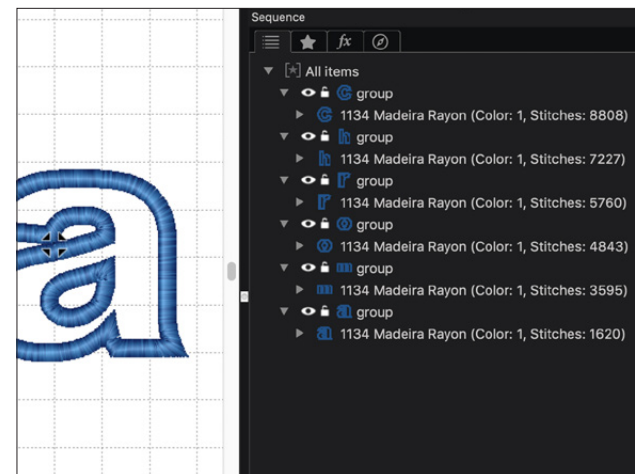

Figure 73
5. Open your Sequence pane and make sure that your letters are in the correct sequence. **See Figure 73.**